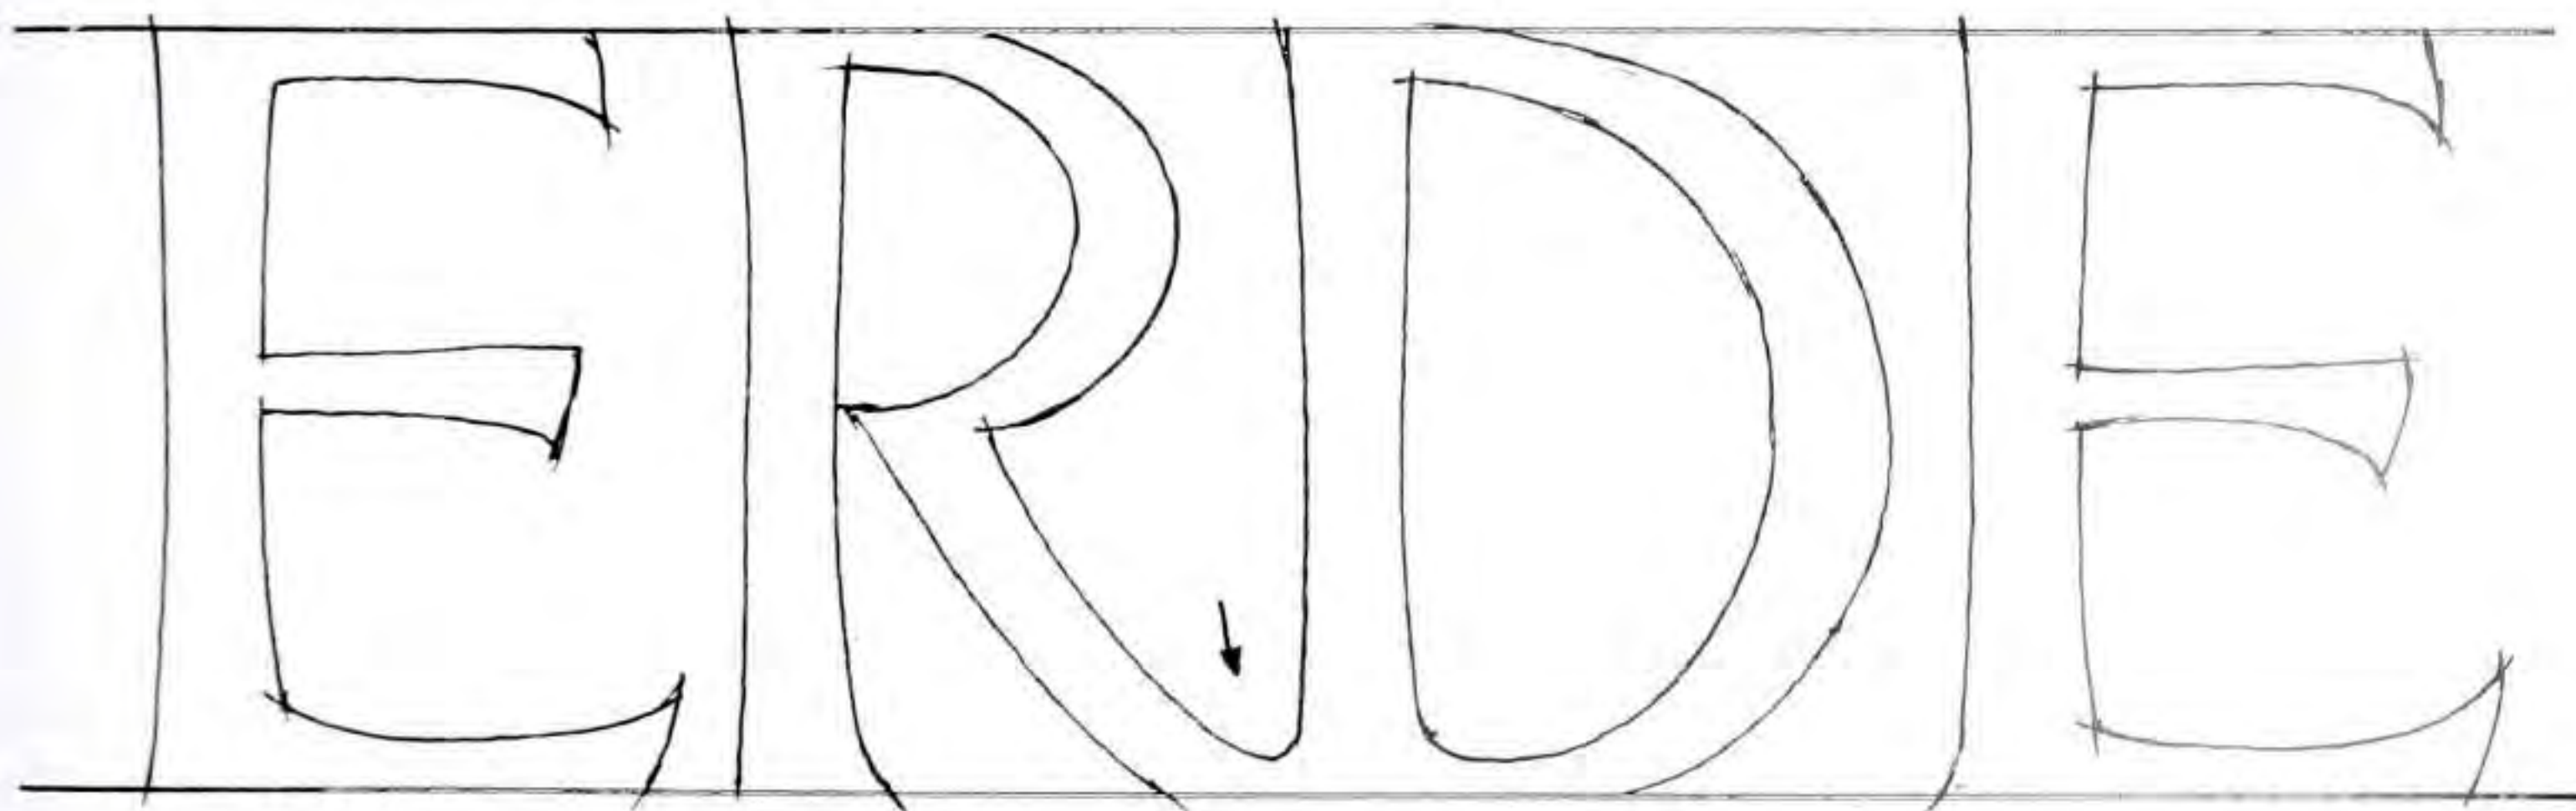

Fig 9.18 Running serifs together when space is tight can improve the appearance of a word.
- Merge serifs. Where an upright and an oblique (e.g. **HA** or **EV**) come together, the sides of the serifs in the interspace can be run smoothly into each other (see Fig 9.18).